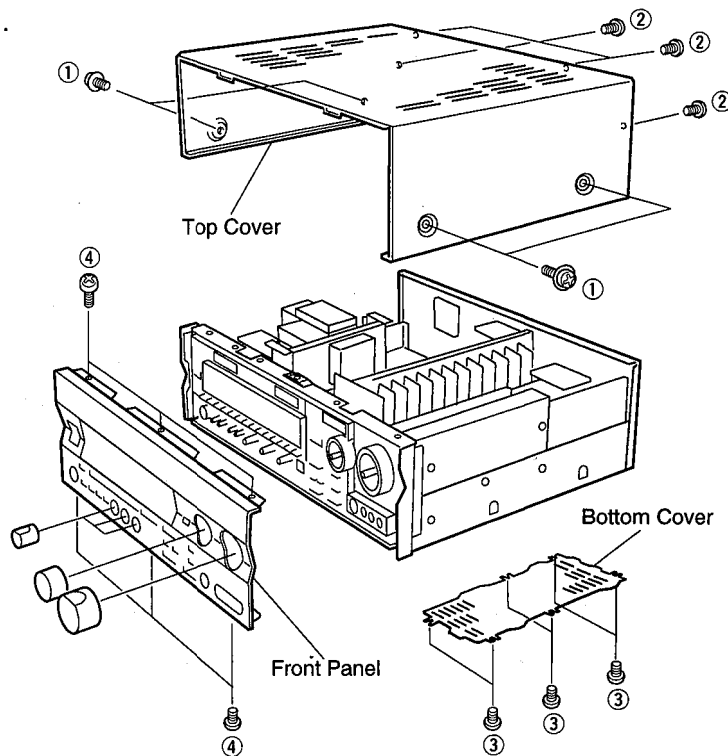

Fig. 1
- ⑪ P. C. B. DSP
- ⑫ P. C. B. OPERATION (2)
- ⑬ P. C. B. OPERATION (6)
- ⑭ P. C. B. INPUT (1)
- ⑮ P. C. B. OPERATION (3)
- ⑯ P. C. B. MAIN (1)
- ⑰ P. C. B. MAIN (4)
- ⑱ P. C. B. MAIN (3)
- a. Remove 4 screws (①), and 4 screws (②) in Fig. 1.
- a. Remove 6 screws (③) in Fig. 1.
b. Remove 6 screws (④) in Fig. 1.